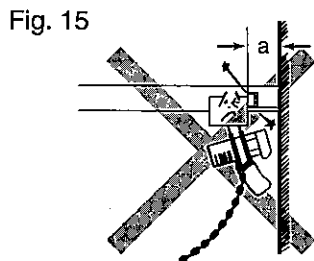

Fig. 16 Undue burden on a cord
- ※ Avoid such installation and operation as Trolley always stops by running against the stopper. Do not pull the push-button cord. Do not traverse Trolley by pulling the push-button cord (Fig.16).